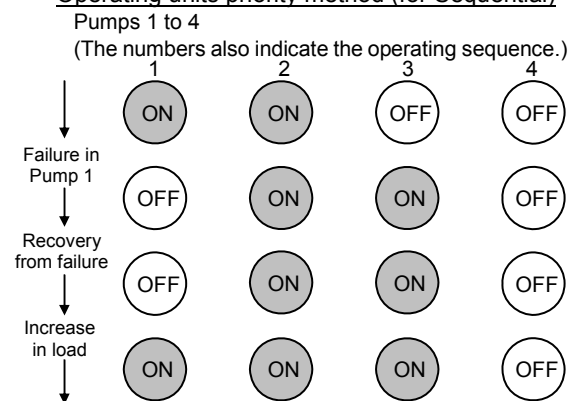

Figure 18. Operation example: Operating units priority method (when load is increased)
- Operating units priority method (See Figs. 18 and 19.): To minimize the times of start/stop operation, pumps in operation take higher priority to operate than pumps in OFF state.